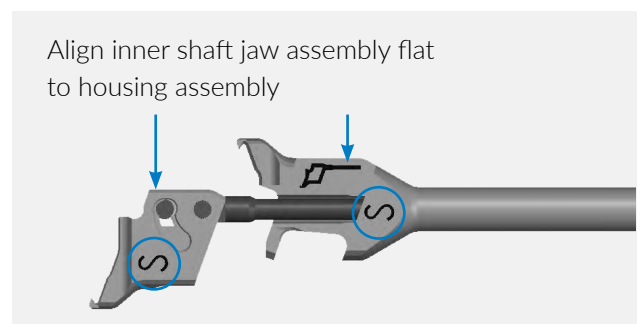

Figure 6
- To assemble, insert the inner shaft into the housing (Figure 5A), depress the button (Figure 5B) and push shaft within housing until a positive stop is felt. With the jaws facing you, align the inner shaft jaw flat and housing jaw flat (Figure 6), rotate the knob clockwise until the shaft is fully seated (Figure 5C).